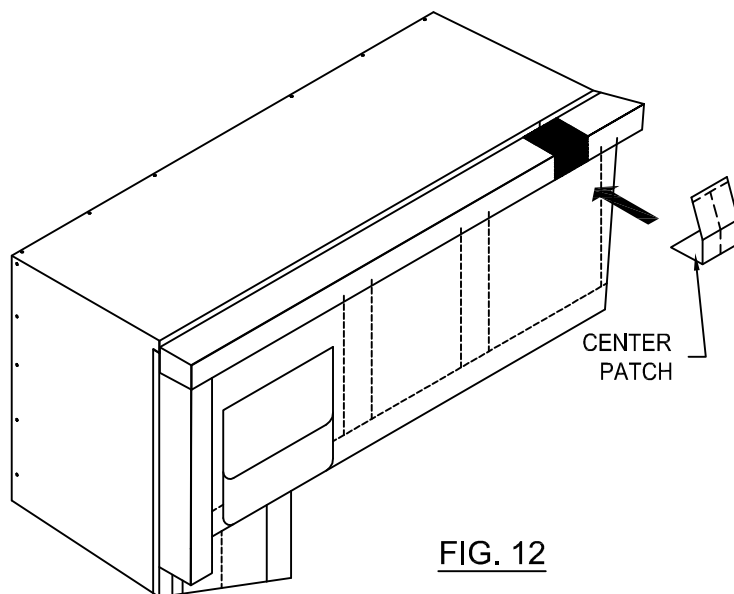

FIG. 12
14. Attach center patch (FIG. 12)